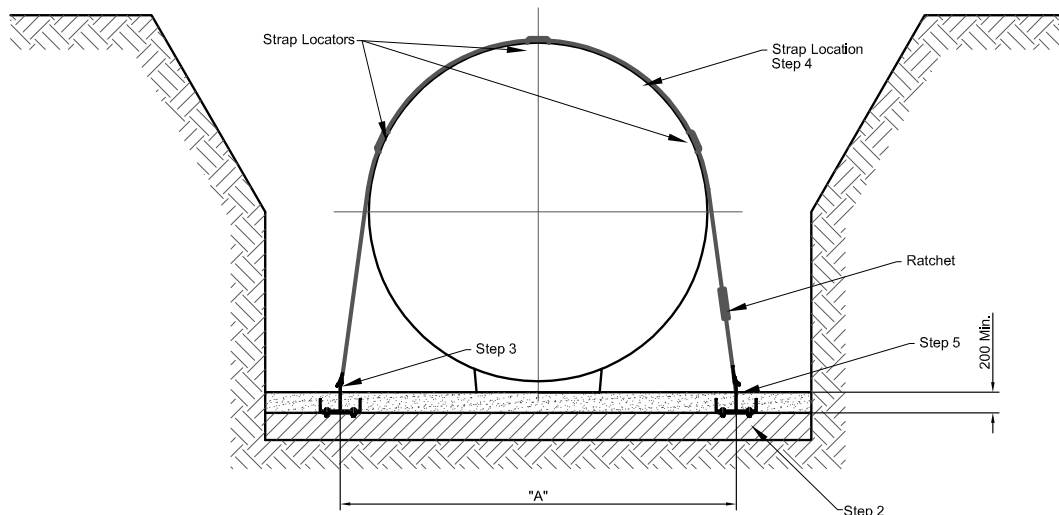

Figure 1
- Step 2 Place Anchors on prepared level base parallel to tanks as shown in Figure 1 and Table 1 Anchor bases should be evenly spaced from center out.
- Step 4 Side the strap locators on to the 'long' length of webbing and position the locators as shown in Figure 1 and 3.